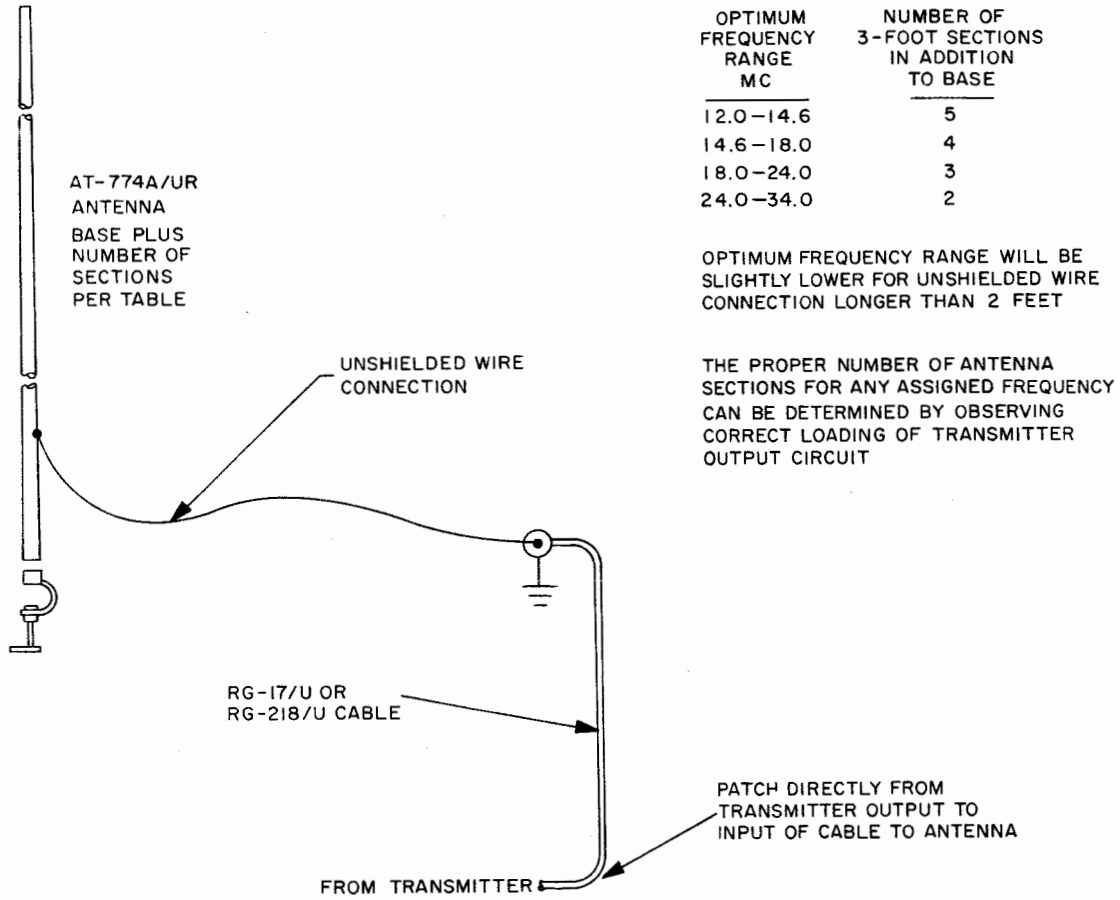

Figure 3-4. Alternative Method for Operation between 12 and 30 MC
c. OPTIONAL OPERATION BETWEEN 12 AND 30 MC. (See figure 3-4.) - In the 12 to 30-mc frequency range, it is possible to transmit without using Antenna Tuning Group AN/BRA-6, provided the proper length of Antenna AT-774A/UR is used. Figure 3-4 lists the proper antenna length required and the method of connecting the cables when the AN/BRA-6 equipment is not used.